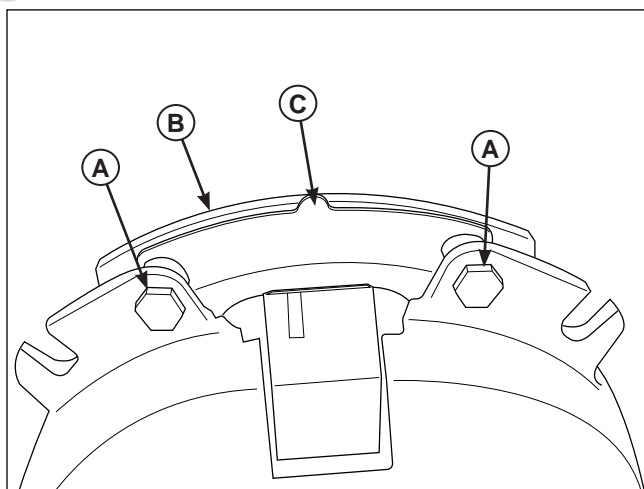

Figure 51. PTO Clutch Adjustment
1. Loosen both brake mounting bolts (A, Figure 51) 1/2 to 1 full turn as shown in Figure 51.
IMPORTANT NOTE: Do not remove the brake pole (B, Figure 51) from the clutch. The brake pole must remain in the correct position to ensure proper brake torque.